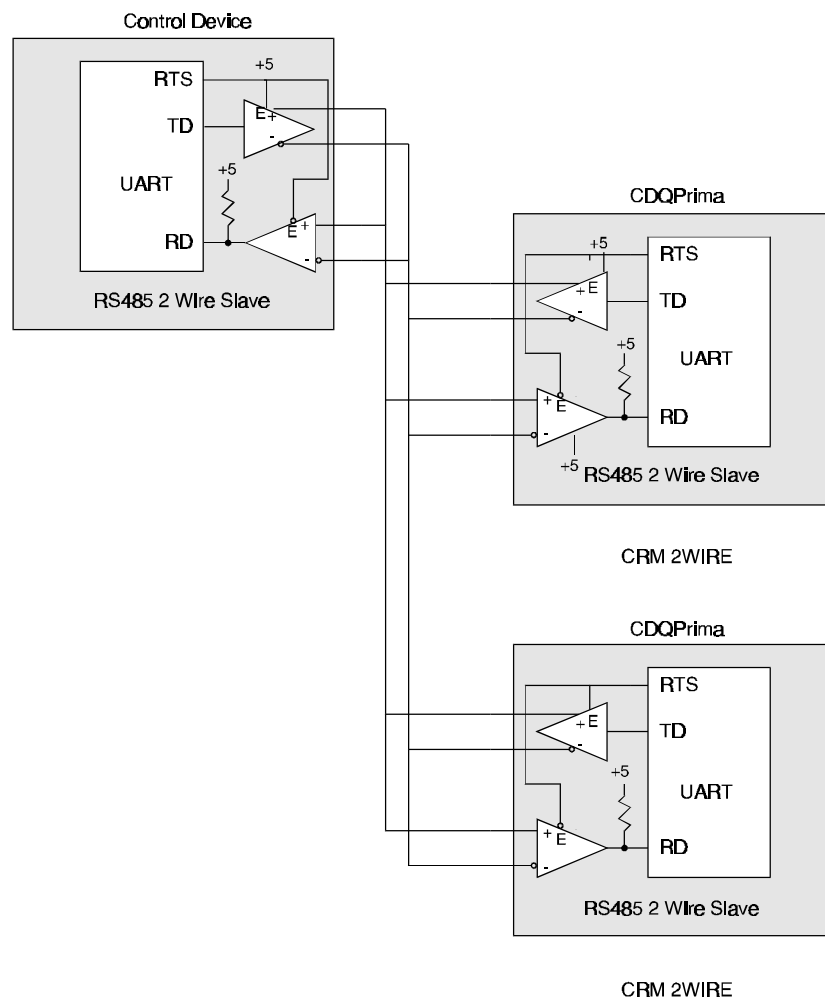

Figure 5-4 RS485 two wire slave interconnection
Fig. 5-4 shows a configuration in which only two wires are used for both transmission and reception. In this configuration all transmitters (TD) must be disconnected from the bus and all receivers are connected to the bus looking for a message with the correct ID. Whichever unit wants to access the bus must first enable its transmitter (TD), disable its receiver (RD) and transmit its message with the appropriate ID field, thus becoming a temporary 'master'. Once the message has been transmitted, it must disconnect its transmitter and enable its receiver. Notice the small circle above the E by the line receiver. This indicates that the RTS signal is inverted before connection to the line receiver. This circuit automatically forces the receiver to be off when the transmitter is on, and vice versa. This configuration is also an addressed communications bus.